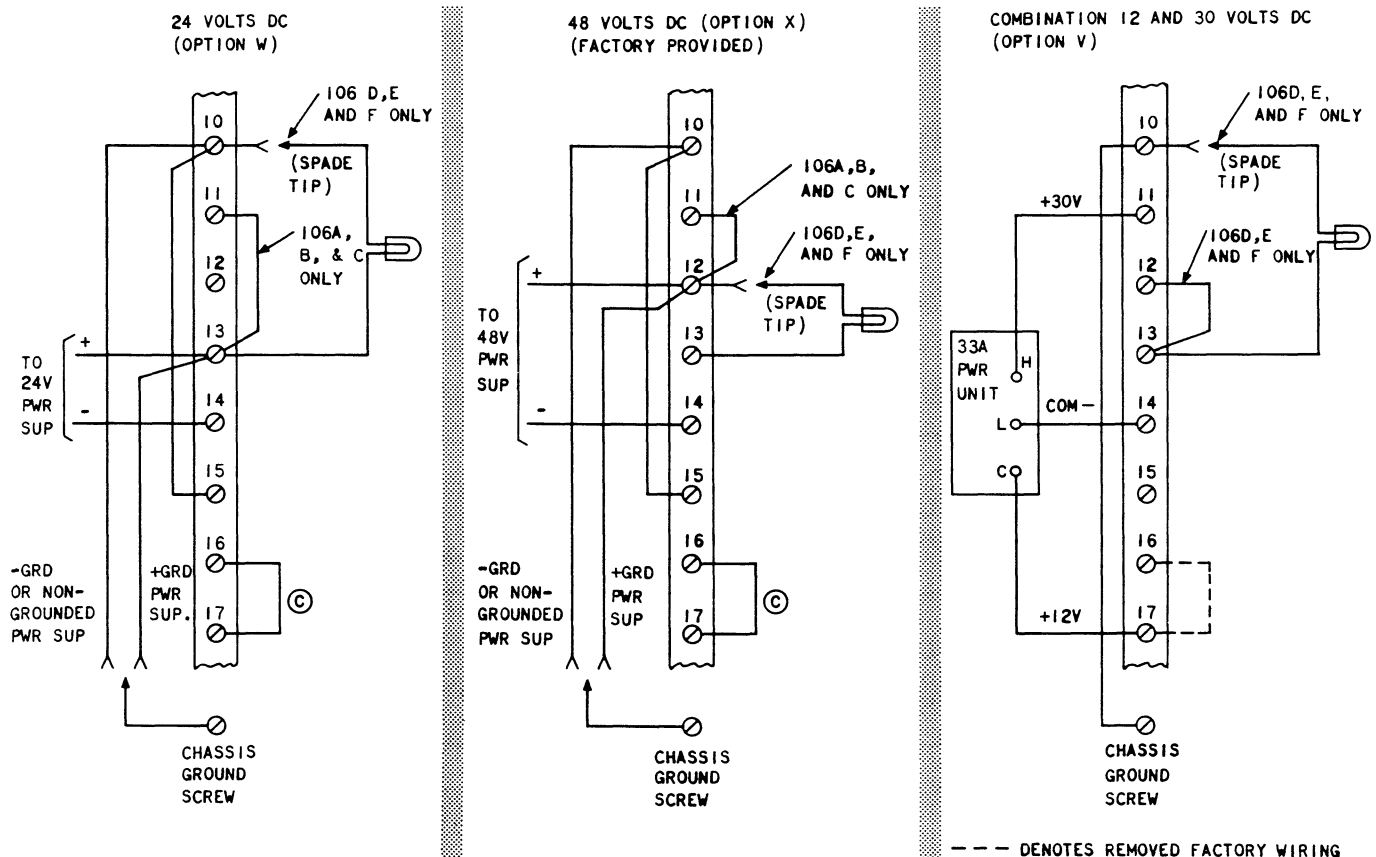

Fig. 9—Connections for 106-Type Loudspeaker Set—Power Supply Options
3.09 The 106D, E, and F sets are equipped with an A1 lamp connected for 48-volt dc operation. Refer to Fig. 9 for connections and strapping for other voltages.
5.01 Connect power supply options as shown in Fig. 9. When using 24 or 48V dc (option W or X), verify that there is a strap between terminals 10 and 15. Determine the ground polarity of the power supply and connect terminal 10 for negative ground or ungrounded supply, or terminal 13 (option W) or 12 (option X) for a positive ground supply, to the amplifier chassis ground screw (Fig. 2, 3, 4, and 5). When a combination of 12 and 30 volts dc (option V) is used, be sure to remove the strap between terminals 16 and 17 and add strap between 12 and 13.